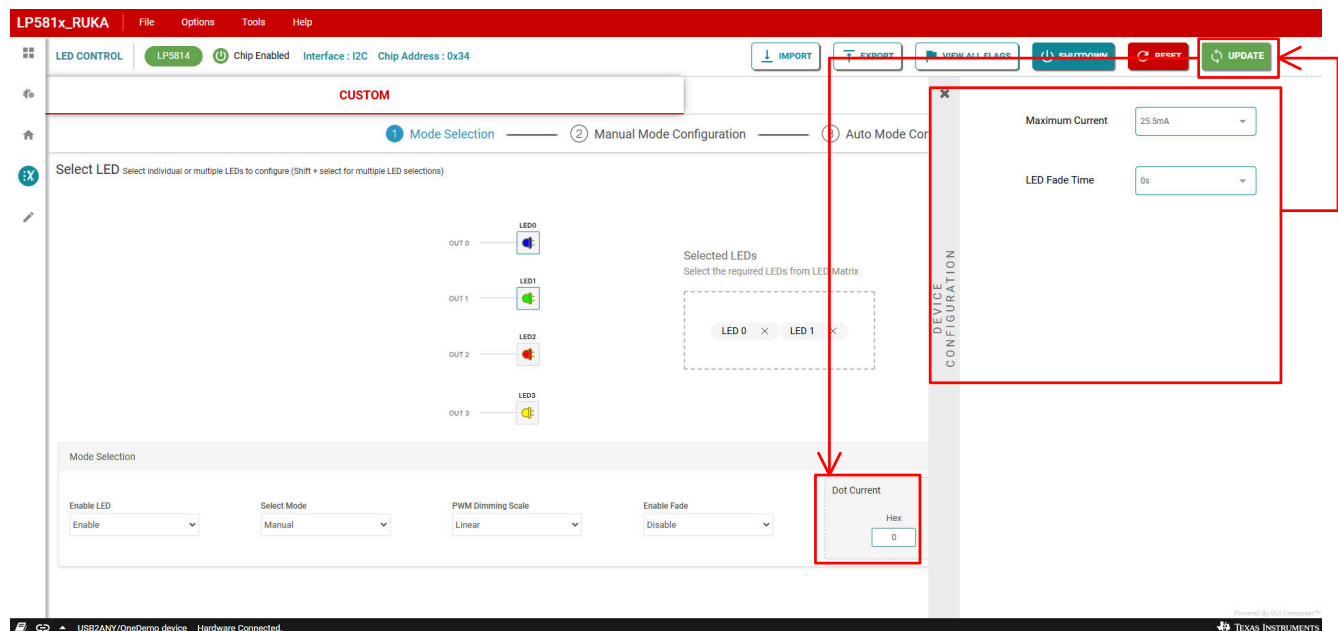

Figure 3-11. Current Set and Update Command Send in Manual Mode
4. Click the *Device Configuration* button on the right side of the *LED Control* page to open the maximum current configure panel as shown in Figure 3-11. Set the MC (Maximum Current) for the selected blue LED and green LED through selecting the *25.5mA* or *51mA* item from the *Maximum Current* pulldown menu.
6. Set DC (Dot Current) value for the selected blue LED and green LED through entering the data in the *Dot Current* control as shown in Figure 3-11.